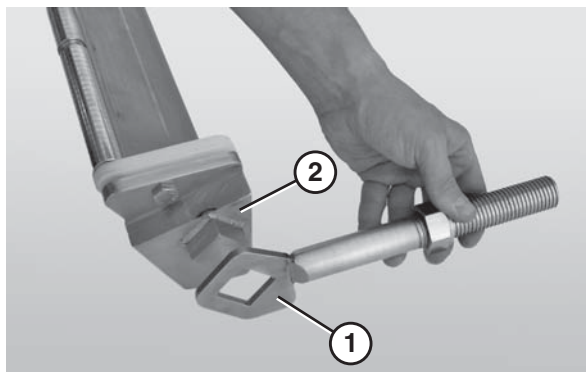

Figure 71
3. Slide the nose bar shafts (Figure 71, item 1) off of the nose bar weldment (Figure 71, item 2).